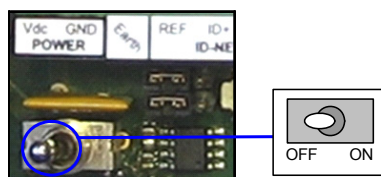

Figure 15 - Power Switch ON/OFF Positions
- 2) Verify that the SC4000 power switch is off (see Figure 15).
The power switch (see Figure 15) switches the power supply ON or OFF for both the SC4000 and any optional device powered through the 25-pin connector.